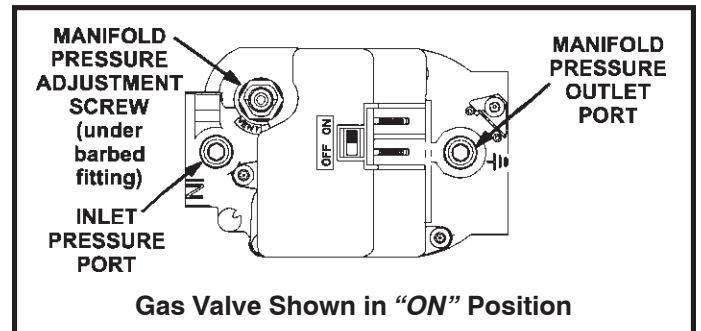

Figure 26
### Gas Valve Operation (Figure 26)
6. Move switch on gas valve to OFF. Do not force. See Figure 26.
8. Move switch on gas valve to **ON**. Do not force. See Figure 26.